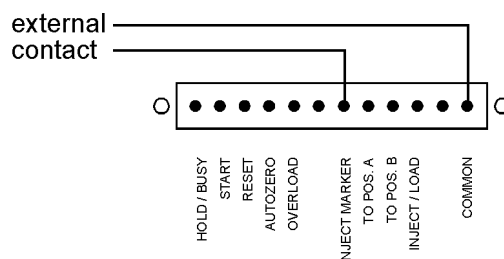

Fig. 13. External contact to start the integrator by switching the automated (built-in) VALCO valve.
1. Connect the hardware trigger of the integrator to the 'Inject marker' on the rear panel of the Bioquant as indicated in (Fig. 13).